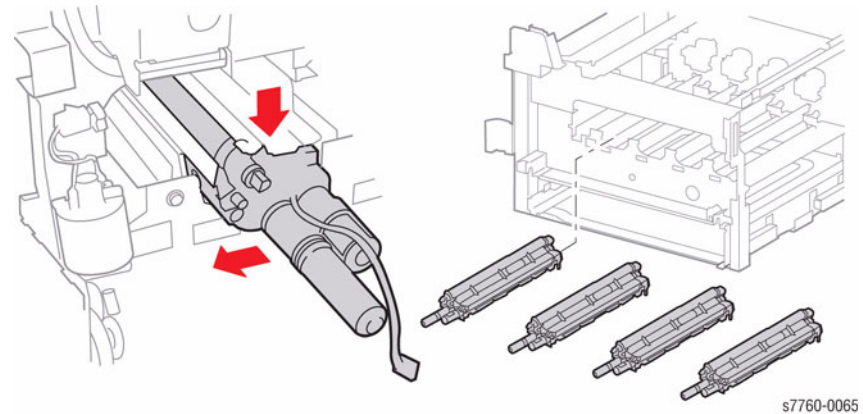

Figure 1 Removing Developer Housing
2. Remove the Developer Housing (Figure 1).